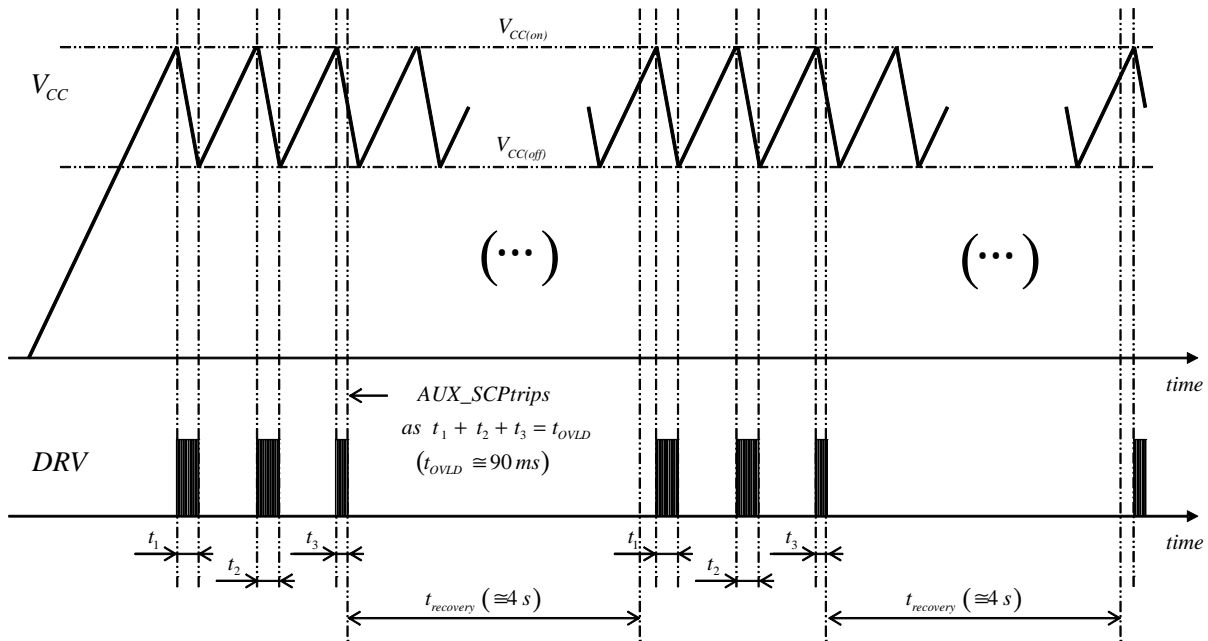

Figure 60. Start-up Sequence in a Load Short-circuit Situation (auto-recovery version)
- If the load is shorted, the circuit will operate in hiccup mode with V_{CC} oscillating between $V_{CC(off)}$ and $V_{CC(on)}$ until the AUX_SCP protection trips (AUX_SCP is triggered if the ZCD pin voltage does not exceed 1 V within a 90-ms operation period of time thus indicating a short to ground of the ZCD pin or an excessive load preventing the output voltage from rising). The NCL30188A latches off in this case. With the B version, the AUX_SCP protection forces the 4-s auto-recovery delay to reduce the operation duty-ratio. Figure 60 illustrates a start-up sequence with the output shorted to ground, in this second case.